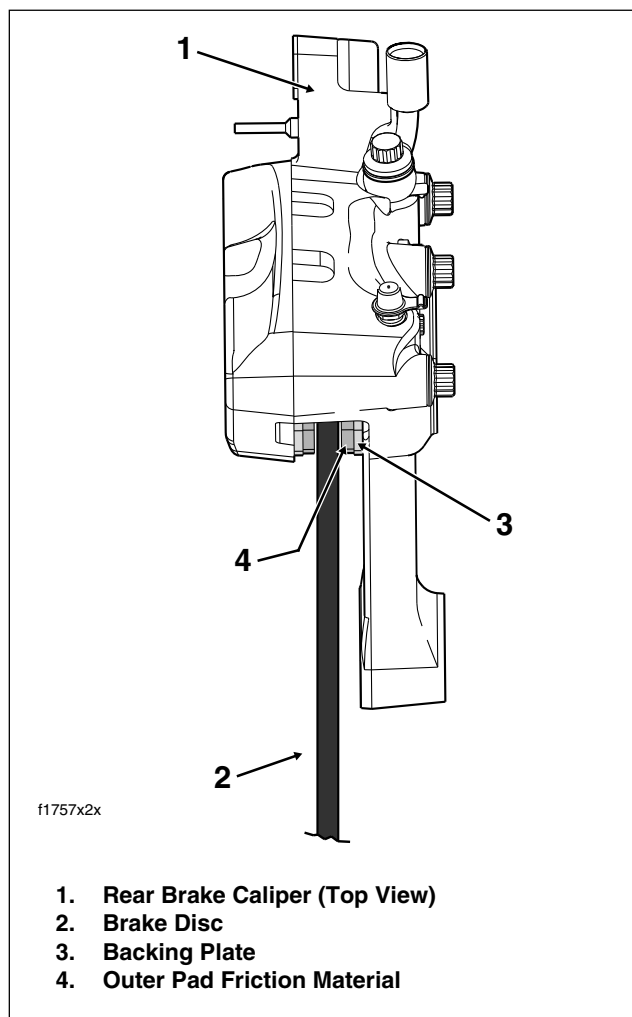

Figure 2-64. Measure Brake Pad Wear
1. Look down at the back of the rear caliper. See Figure 2-64.